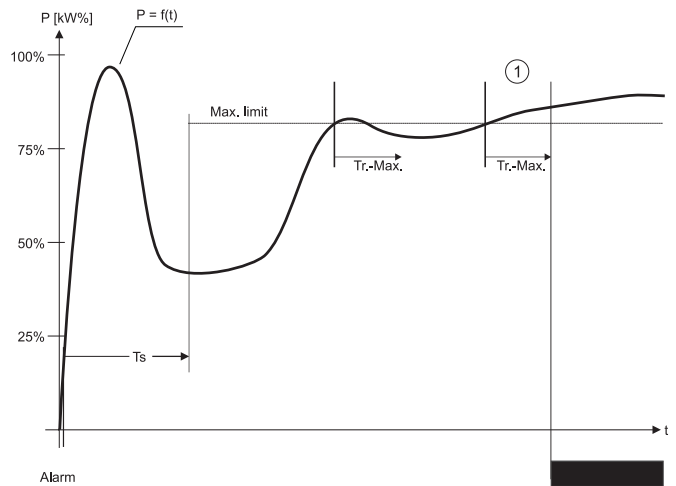

Figure 4.2 Functionality of the max. limit
The max. limit serves as over load protection of the driven equipment. The setpoints are set in % of the entered power range. Individual respons timers are available for each limit. If the setpoint for the max. limit is exceeded continuously for the duration of the respons time (T_r Max) a max. alarm is given (1) - see figure 4.2.